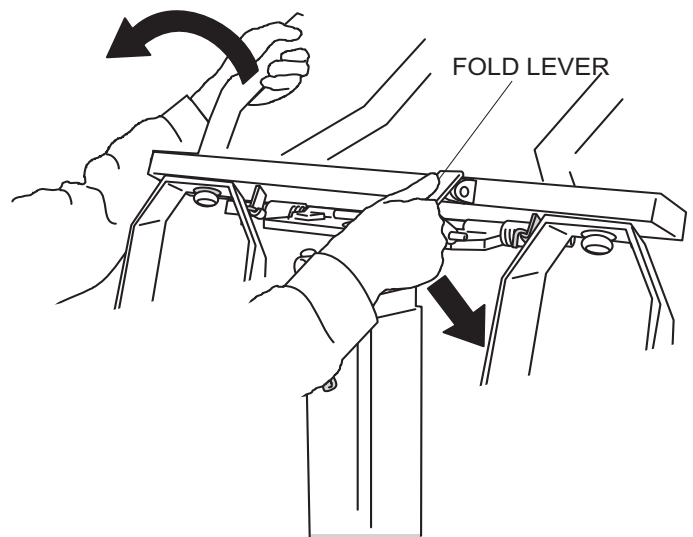

Figure 14. Locking Lamp Stand
- Push up the lighting unit and push down the fold lever to lock the lamp stand (Figure 14).